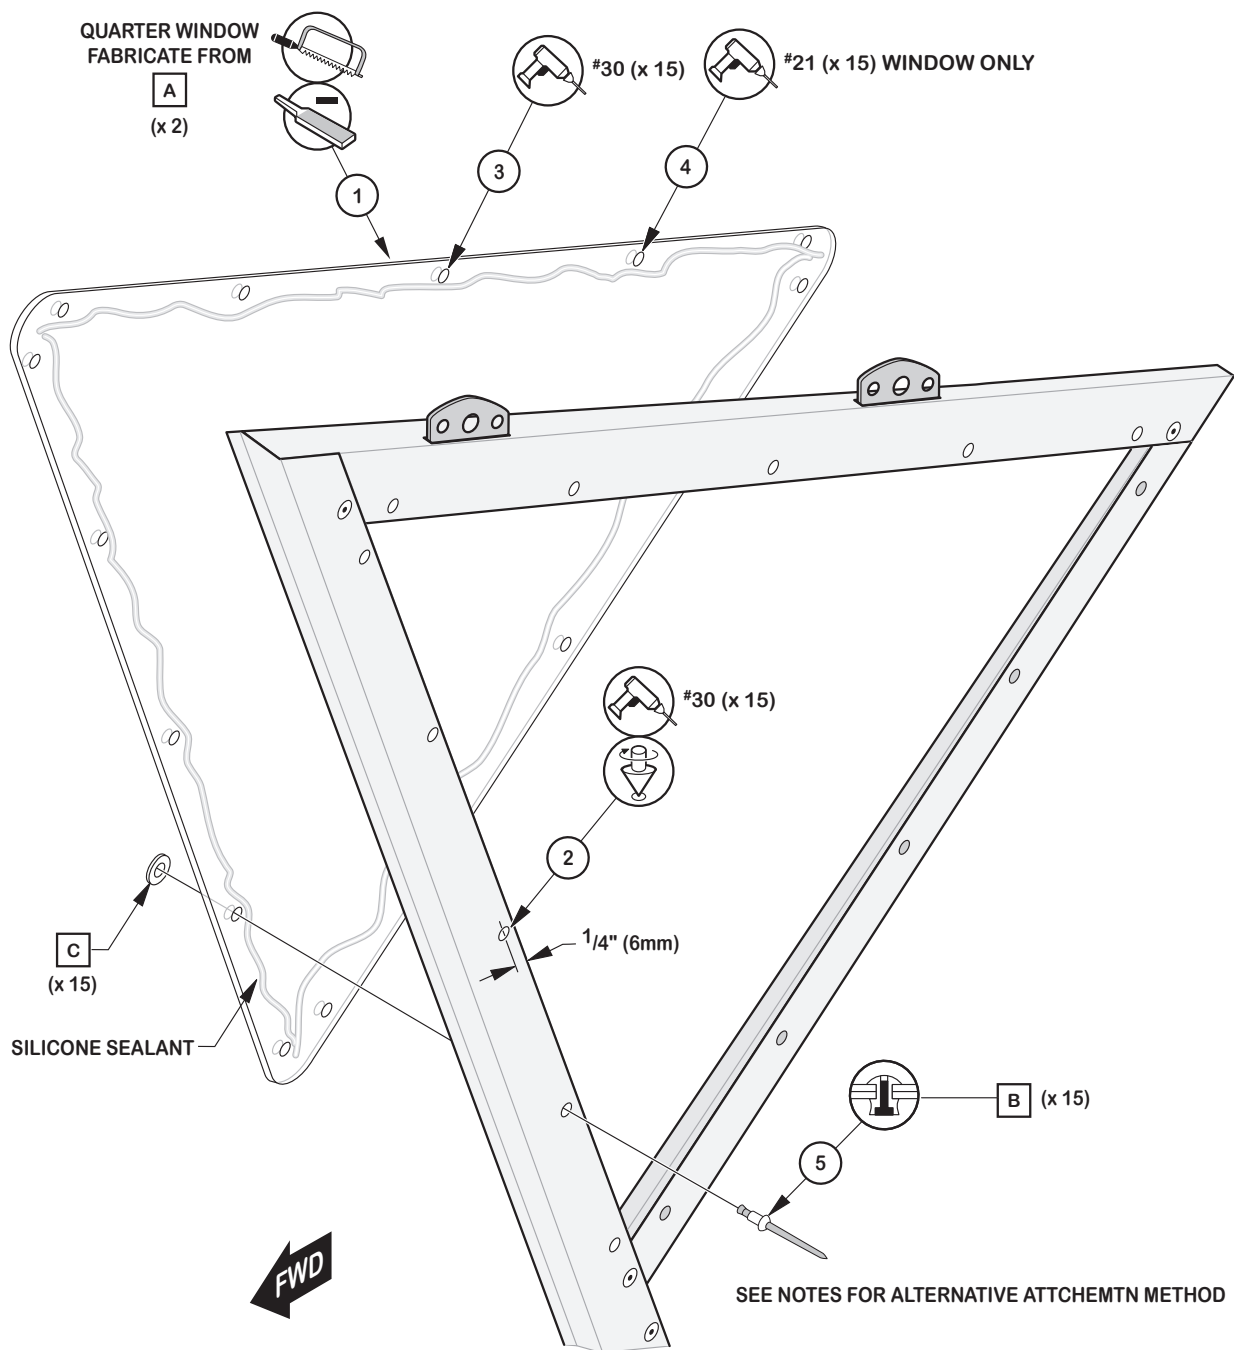

Figure F-1
- 5. Apply a bead of silicone sealant to the area where the window contacts the frame and rivet in place using the pop rivets and backup washers shown in Figure F-1. Clean up any excess silicone from the window pane.